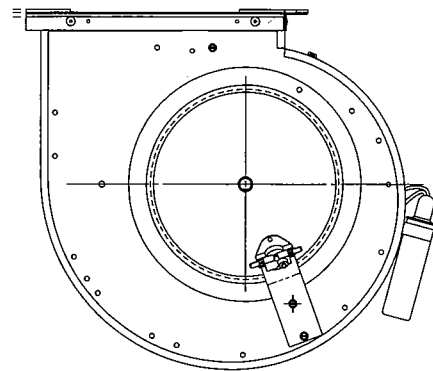

Fig. 10A — As Shipped From Factory
1. Remove the two screws holding the auxiliary limit mounting bracket to the bottom side of the blower housing, as shown in Figure 10A.